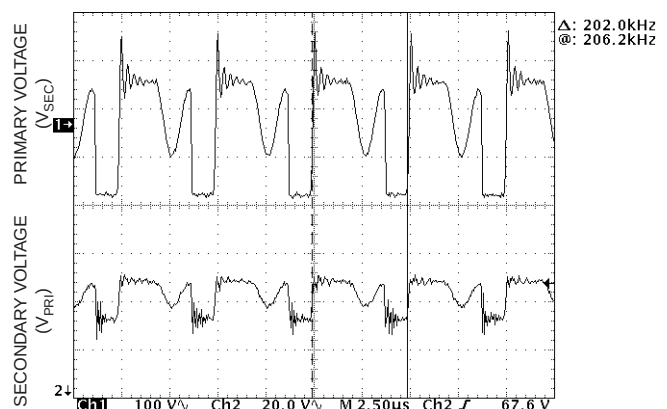
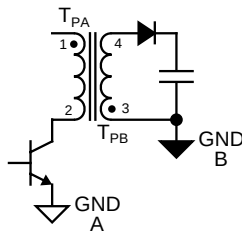

Figure 7. Off-Line Supply Switching Waveforms
Figure 8. Flyback Topology, Partial Schematic
This section discusses some of the typical measurements made on the popular flyback and forward-type transformers. The most common flyback transformer issue is incorrect polarity. See Figures 8 and 9 for a schematic diagram utilizing the two transformers types.
The polarity of a transformer means that two terminals represented by polarity dots (see Figure 8 or 9), are instantaneously in phase with respect to a common ground.
The top and bottom waveforms of Figure 7 are the voltages at test point A and B in Figure 8 respectively. These waveforms should be in phase. The polarity dot tells the winding technician that pin 1 is the start of the winding and pin 2 is the finish. If the technician winds the opposite way, the transformer is incorrect, the supply will perform poorly, and the main switch will heat and fail.
For flyback- and forward type-transformers, the relationship of phasing from primary to secondary can be found by using Figure 8. The rule of thumb for identifying the two is:
- Flyback transformers always have polarity dots at opposing terminals. See Figure 8.